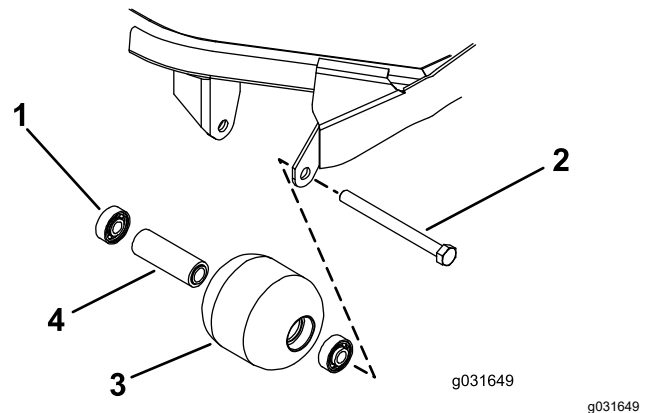

Figure 75
1. Remove the roller-mounting bolt (Figure 75).
4. Inspect the roller housing, bearings, and bearing spacer for damage (Figure 75).
1. Pressing on the outer race only or equally on the inner and outer race, press the first bearing into the roller housing (Figure 75).
2. Insert the spacer (Figure 75).
3. Pressing on outer race only or equally on the inner and outer race, press the second bearing into the roller housing until it contacts the spacer (Figure 75).